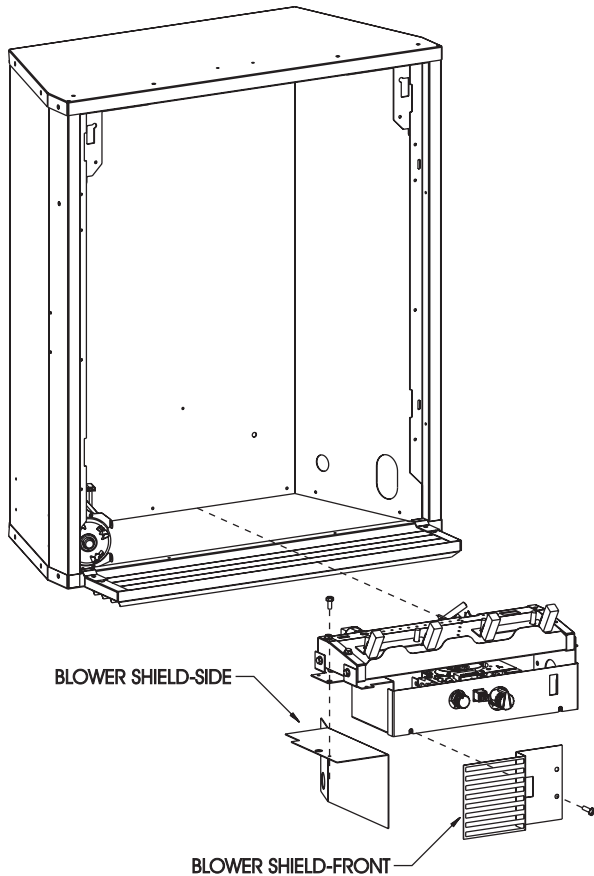
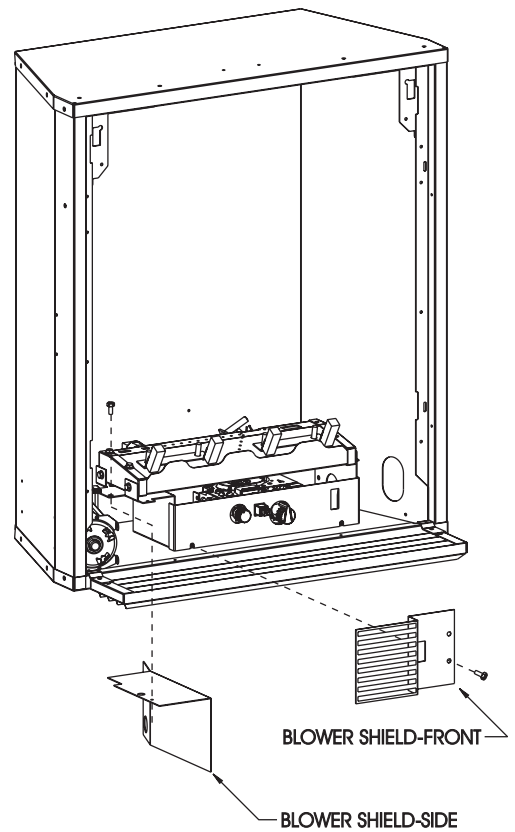

Figure 3
Figure 4
11. Place blower shield side adjacent to motor. Route blower motor wires through Heyco on blower shield side. (See Figure 3 and Figure 4)
23. Position blower shield side beneath left flange on burner assembly. Align clearance hole on left flange of burner assembly with screw hole on blower shield side. Attach burner assembly to blower shield side with one (1) 10 x 1/2" screw. (See Figure 3 for **not installed** or Figure 4 for **installed**)
- burner assembly. Insert blower shield front adjacent to blower motor and blower shield side. Align clearance hole on blower shield front with left, front screw hole on valve cover. Attach blower shield front to valve cover with 10 x 1/2" screw. (See Figure 3 for **not installed** or Figure 4 for **installed**)